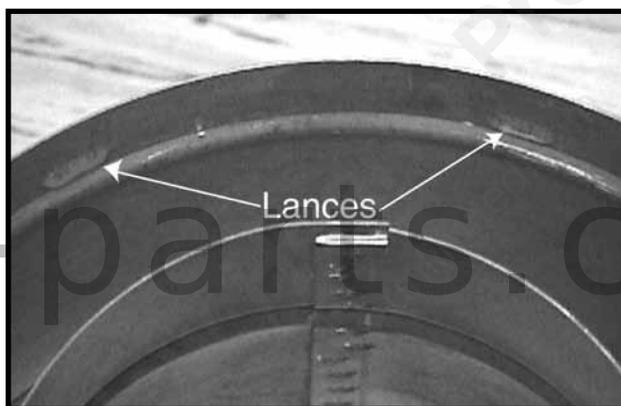

Figure 16.
- Slide the male end of the inner flue of the pipe section into the inner collar on the heater. At the same time, insert the outer flue into the outer collar on the heater. Push the flue section into the appliance collar until all the lances (see Figure 16) have snapped in place. Tug slightly on the flue to confirm that it has completely locked into place.